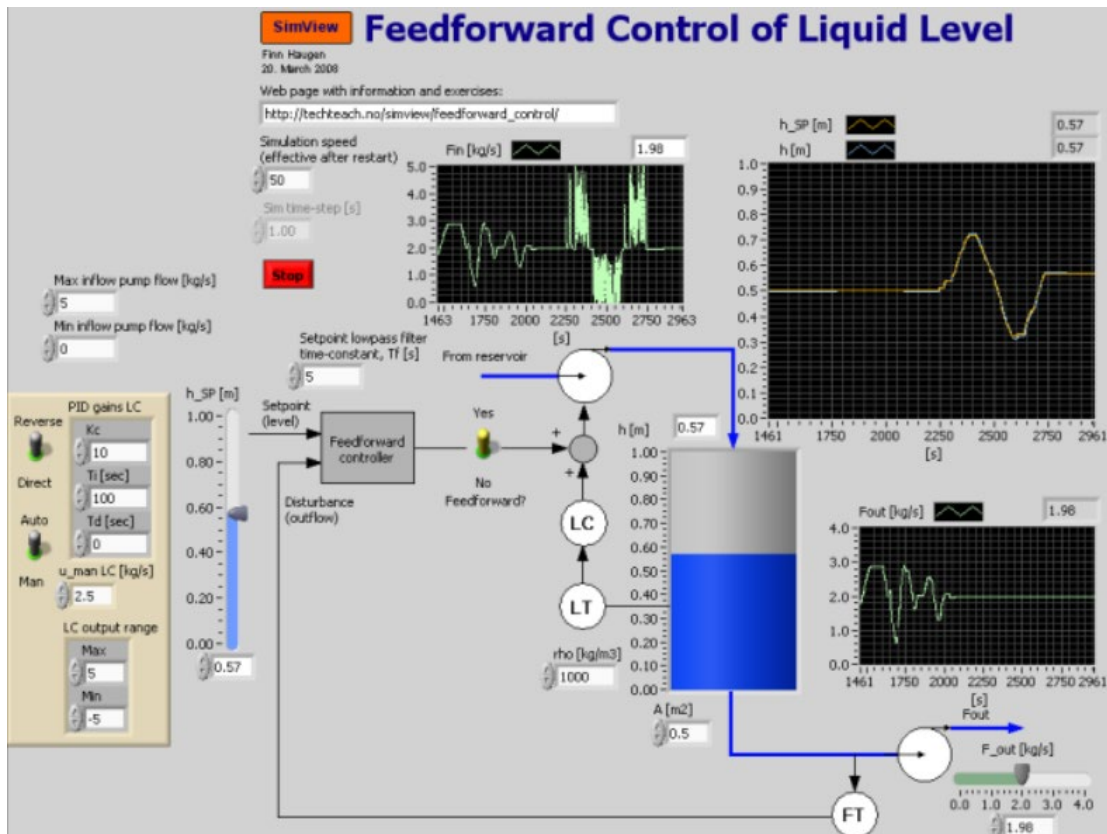

Figure 8: Feedforward (and feedback) control of liquid level.
2. Level control: Feedforward from measured outflow (disturbance) and level setpoint. See Figure 8.